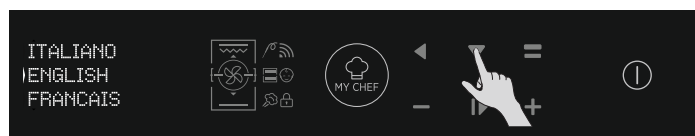

Figure 4
- Select the language from the drop down menu. (Figure 4)